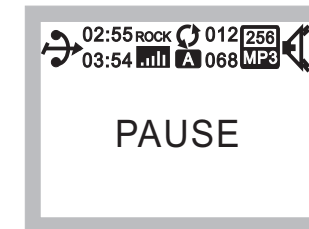

Fig. 9
(B) Press PLAY/PAUSE button to pause track, Fig. 9: